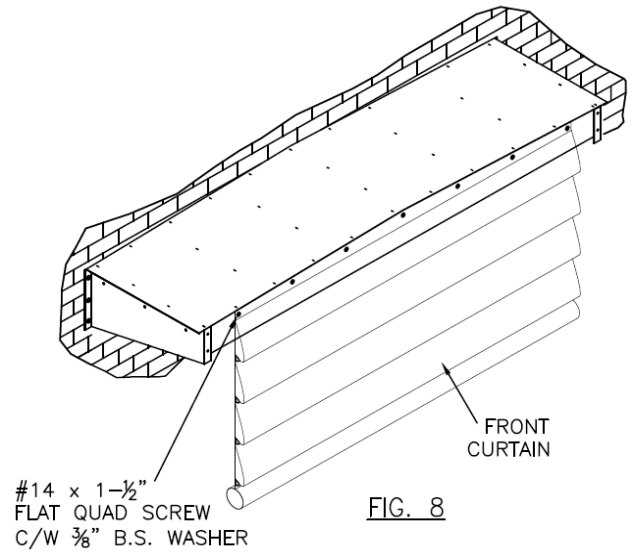

FIG. 8
a. Position and secure header curtain. (Fig 8)